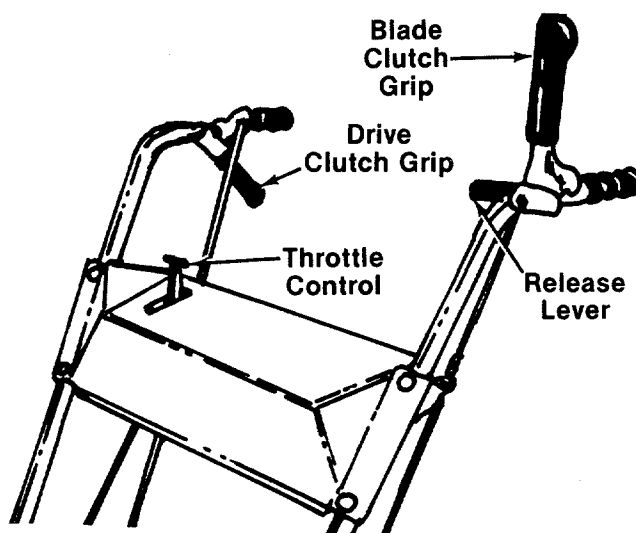

FIGURE 12.
The throttle control is located on the right hand side of handle panel. It controls engine speed. See figure 12.
The drive clutch grip is located on the right handle of the mower. Squeezing the clutch grip engages the drive pinions into the wheels. Release the clutch handle and the forward motion of the mower stops. You must release the clutch handle to make a turn. See figure 12.
The blade clutch grip is located on the left handle. Push the release lever to free the blade clutch grip, then squeeze the clutch grip against the handle to engage the blade. Release the grip to stop the blade from turning. See figure 12.
1. Be certain both clutch grips are in the disengaged position (released). See figure 12.
2. Move the throttle control to the "CHCKE" position. See figure 12.